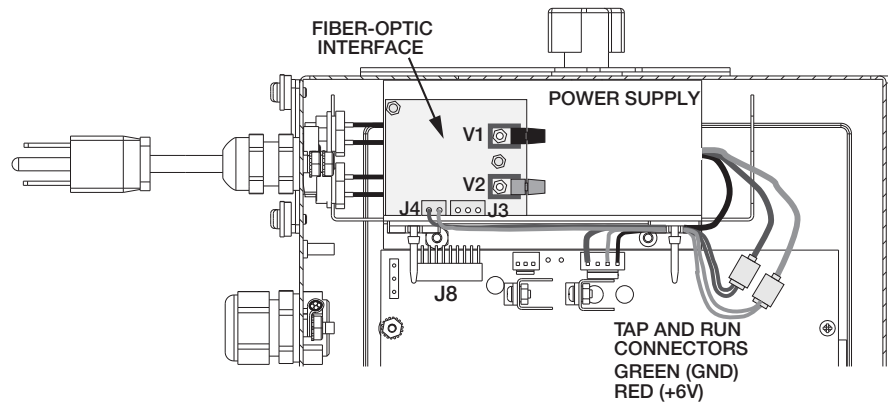

Figure 3. Install Card – 920i Shown
2. Press the fiber-optic interface backplate onto the adhesive square, then install the interface board onto the backplate. See Figure 3.